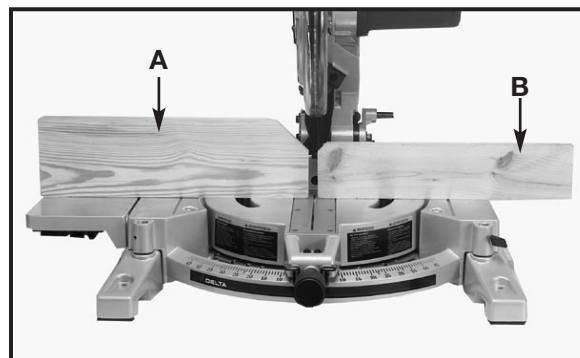

Fig. 31
fence (A) and (B) Fig. 31. This auxiliary fence is constructed of straight wood approximately 1/2" thick by 3" high by 16 inches long as shown at (B); and 1/2" thick by 5" high by 17" long (A) Fig. 31.